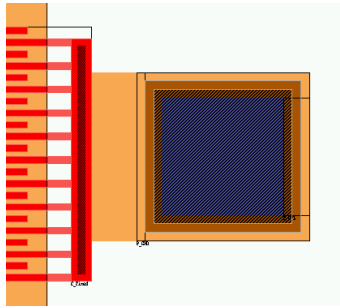

Figure 17: Attaching the first bonding pad
- ☑ Position the bonding pad slightly to the right of the right comb-drive (Figure 17).